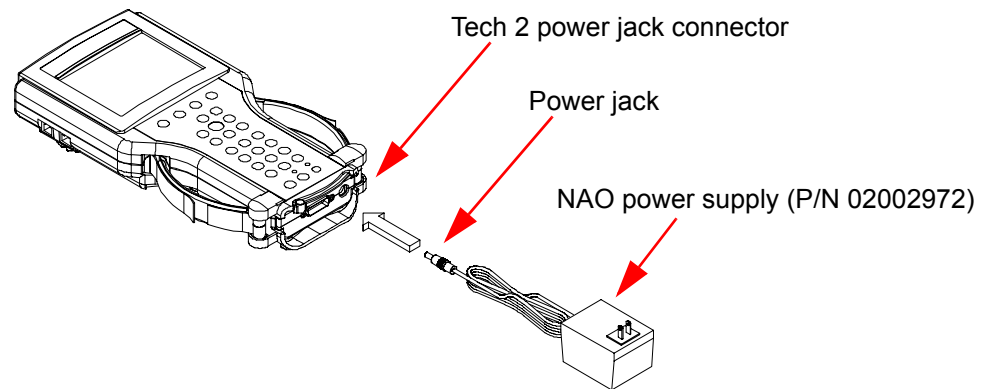
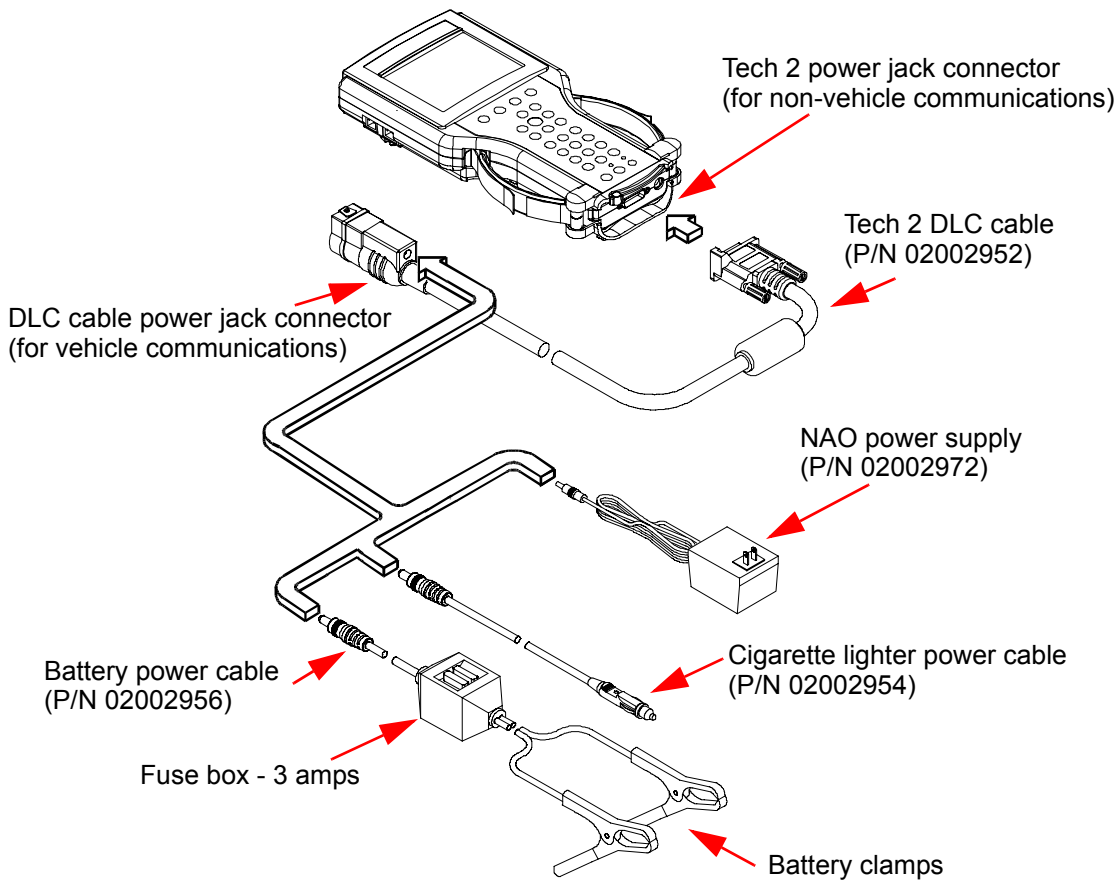
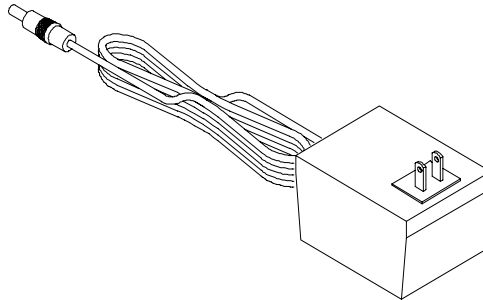

FIGURE 3-25. Tech 2 Connection to PC
FIGURE 4-1. Tech 2 Power Connections (Without Direct Power Connection from the DLC)
FIGURE 4-2. NAO Power Supply (110 Volts)
- Make sure the appropriate power supply is connected to the DLC cable power jack connector (Figure 4-1), or to the power jack connector at the bottom of the Tech 2 (Figure 3-25).
- The power jack connector at the bottom of the Tech 2 unit (Figure 4-1), or
- The DLC cable power jack connector behind the area where various DLC adapters are connected (Figure 4-1).
- Cigarette lighter power cable (Figure 4-1, see text below)
- Battery power cable (Figure 4-1, see text below)
- NAO power supply (Figure 4-1 and Figure 4-2, see *NAO Power Supply* on page 3)
This cable contains one fuse and two connectors. It has a cigarette lighter plug at one end and a power jack at the other (Figure 4-1). The power jack connects to the Tech 2 DLC cable and carries power to the Tech 2 when the selected vehicle adapter does not provide power.
This cable has red and black battery clamps attached to one end and a power jack to the other (Figure 4-1). The power jack connects to the Tech 2 DLC cable and carries current to the Tech 2 when the selected vehicle adapter does not provide power and there is no cigarette lighter adapter available.
North American electrical supply is normally 110 volts. The Tech 2 base kit includes an external AC to DC power supply with 110 V AC/60 Hz input (Figure 4-2). Output is 12 volts at 1.5 amps.